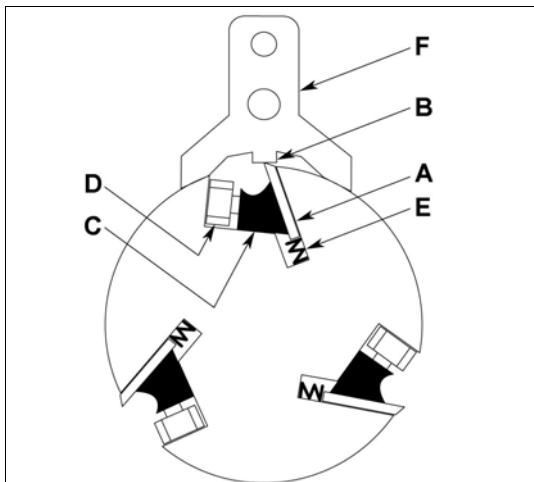
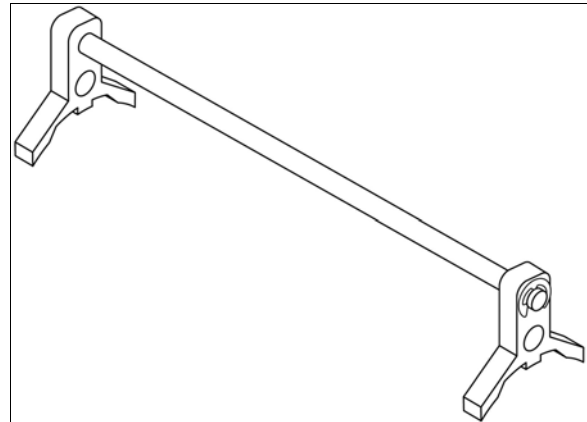
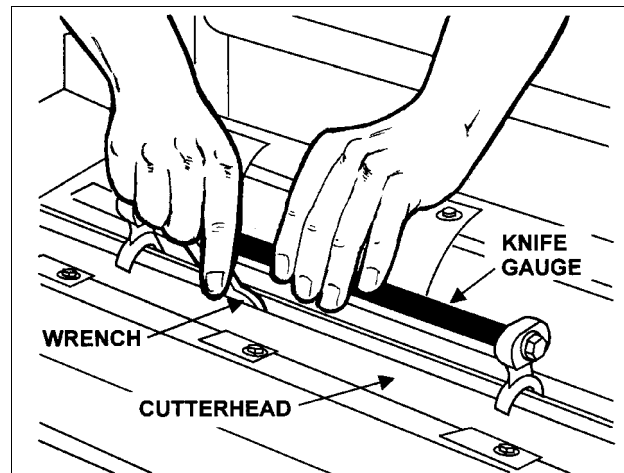

Figure 21
Figure 22
Figure 23
3. To check and adjust the knives, use the provided *knife gauge* (Fig. 22) and check all three knives. Press the knife gauge against the cutterhead as shown in Figure 23.
Referring to Figure 21:
7. After all three knives are set with screws just snug, back out and tighten the six gib screws (D, Fig. 21 & Fig. 23) of the first knife against the slot starting with the end screws, then the center screws, until the knife is securely held in the cutterhead. Tighten remaining two knives in the same manner.
Refer to Figure 21:
- Place knife gauge (Fig. 23) over knife.
Still referring to Figure 21: